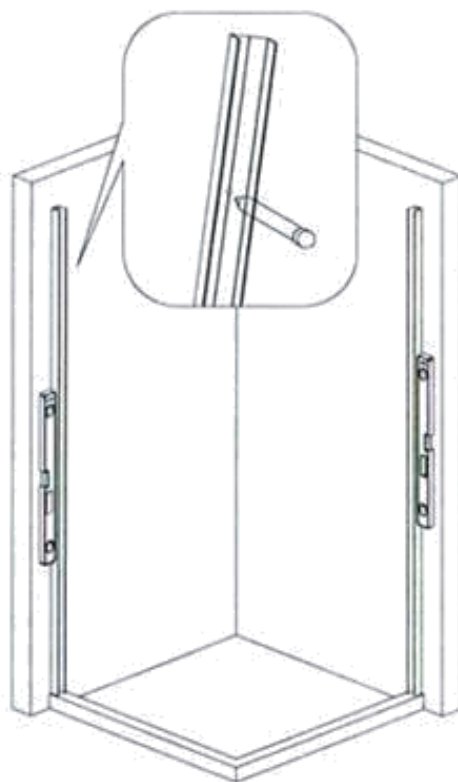

Fig 2
2. Place the **wall profile (12)** centrally and vertically above the tray, using a level adjust the wall profile upright, then make the marks through the predrilled holes on the wall profile for drilling. Now drill the holes with drill bit ($\Phi 8\text{mm}$) and insert the **wall anchor (8)**. (Fig 2, 3)